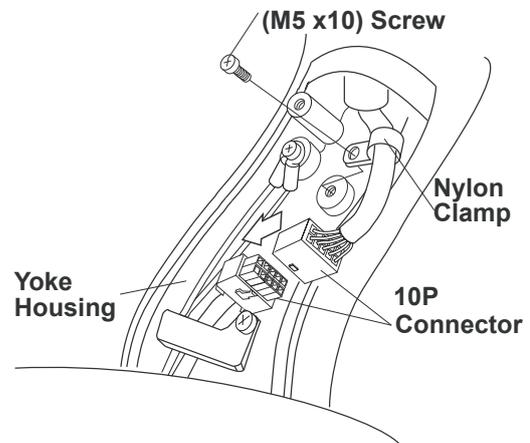

Fig.3-18 Connection 10P Connector in Yoke
6. Loosen the (M5 x 10mm) screw and remove the nylon cable clamp from the yoke housing. Place cable clamp on the balance arm cable. Connect the 10P connectors, and then attach the balance arm cable to the yoke housing with the nylon cable clamp. (Fig.3-18)